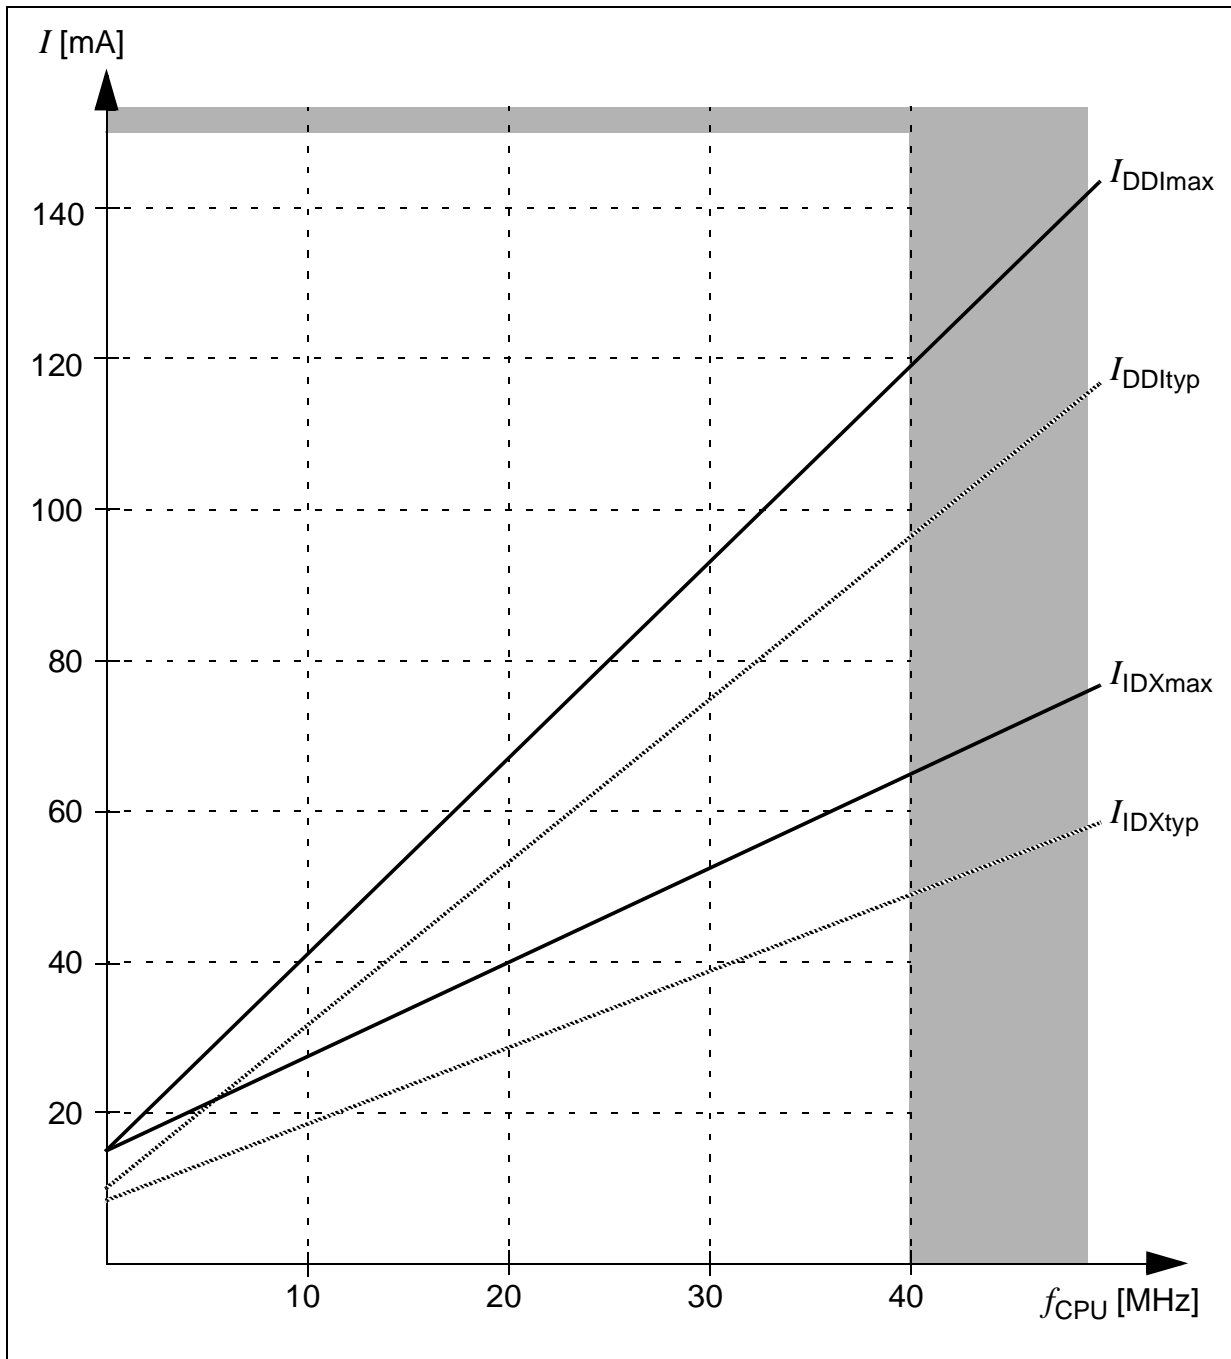

Figure 11 Supply/Idle Current as a Function of Operating Frequency
- ²⁾ The supply current is a function of the operating frequency. This dependency is illustrated in Figure 11. These parameters are tested at $V_{DDI_{max}}$ and maximum CPU clock frequency with all outputs disconnected and all inputs at V_{IL} or V_{IH} .